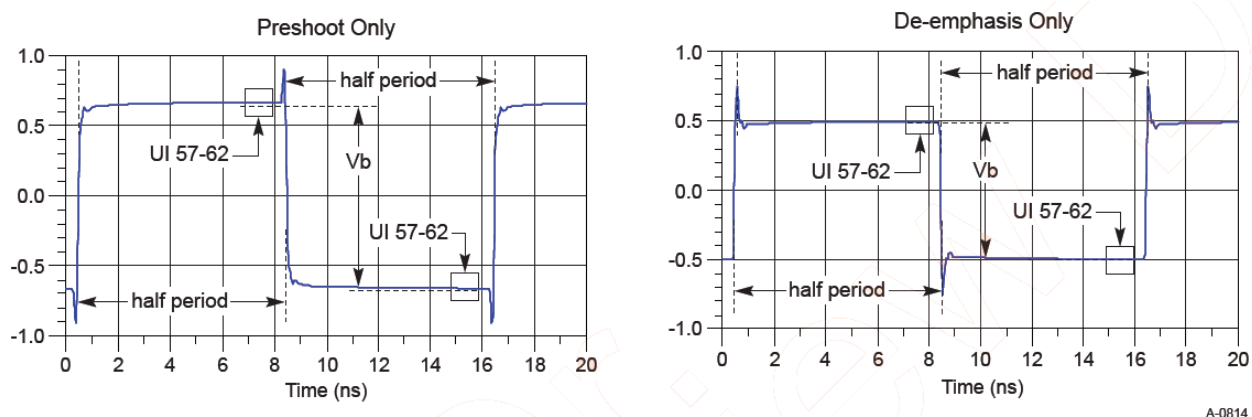

Figure 199 Waveform measurement points for preshoot and de-emphasis
8.0 GT/s, 16.0 GT/s and 32.0 GT/s PCIe signaling must support the full range of presets given in Table 8-1 (PCIe Base Specification Revision 5.0). Presets are defined in terms of ratios, relating the pre-cursor (Vc) is referred to as pre-shoot, while the post-cursor (Vb) is referred to as de-emphasis. This convention permits the specification to retain the existing 2.5 GT/s and 5.0 GT/s definitions for Tx equalization, where only de-emphasis is defined, and it allows preshoot and de-emphasis to be defined such that each is independent of the other. The tolerances in Table 8-1 (PCIe Base Specification Revision 5) also apply to 2.5 and 5.0 GT/s de-emphasis. The maximum swing, Vd, is also shown to illustrate that, when both c_{+1} and c_{-1} are nonzero, the swing of Va does not reach the maximum as defined by Vd. The high frequency nature of PCIe signaling makes measurement of single UI pulse heights impractical. Consequently all amplitude measurements are made with low frequency waveforms as shown in Figure 199.
8.0 GT/s, 16.0 GT/s and 32.0 GT/s PCIe signaling must support the full range of presets given in Table 8-1 (PCIe Base Specification Revision 5.0). Presets are defined in terms of ratios, relating the pre-cursor and post-cursor equalization voltages. The pre-cursor (V_c) is referred to as pre-shoot, while the post-cursor (V_b) is referred to as de-emphasis. This convention permits the specification to retain the existing 2.5 GT/s and 5.0 GT/s definitions for Tx equalization, where only de-emphasis is defined, and it allows preshoot and de-emphasis to be defined such that each is independent of the other. The tolerances in Table 8-1 (PCIe Base Specification Revision 5) also apply to 2.5 and 5.0 GT/s de-emphasis. The maximum swing, V_d , is also shown to illustrate that, when both c_{+1} and c_{-1} are nonzero, the swing of V_a does not reach the maximum as defined by V_d . The high frequency nature of PCIe signaling makes measurement of single UI pulse heights impractical. Consequently all amplitude measurements are made with low frequency waveforms as shown in Figure 199.